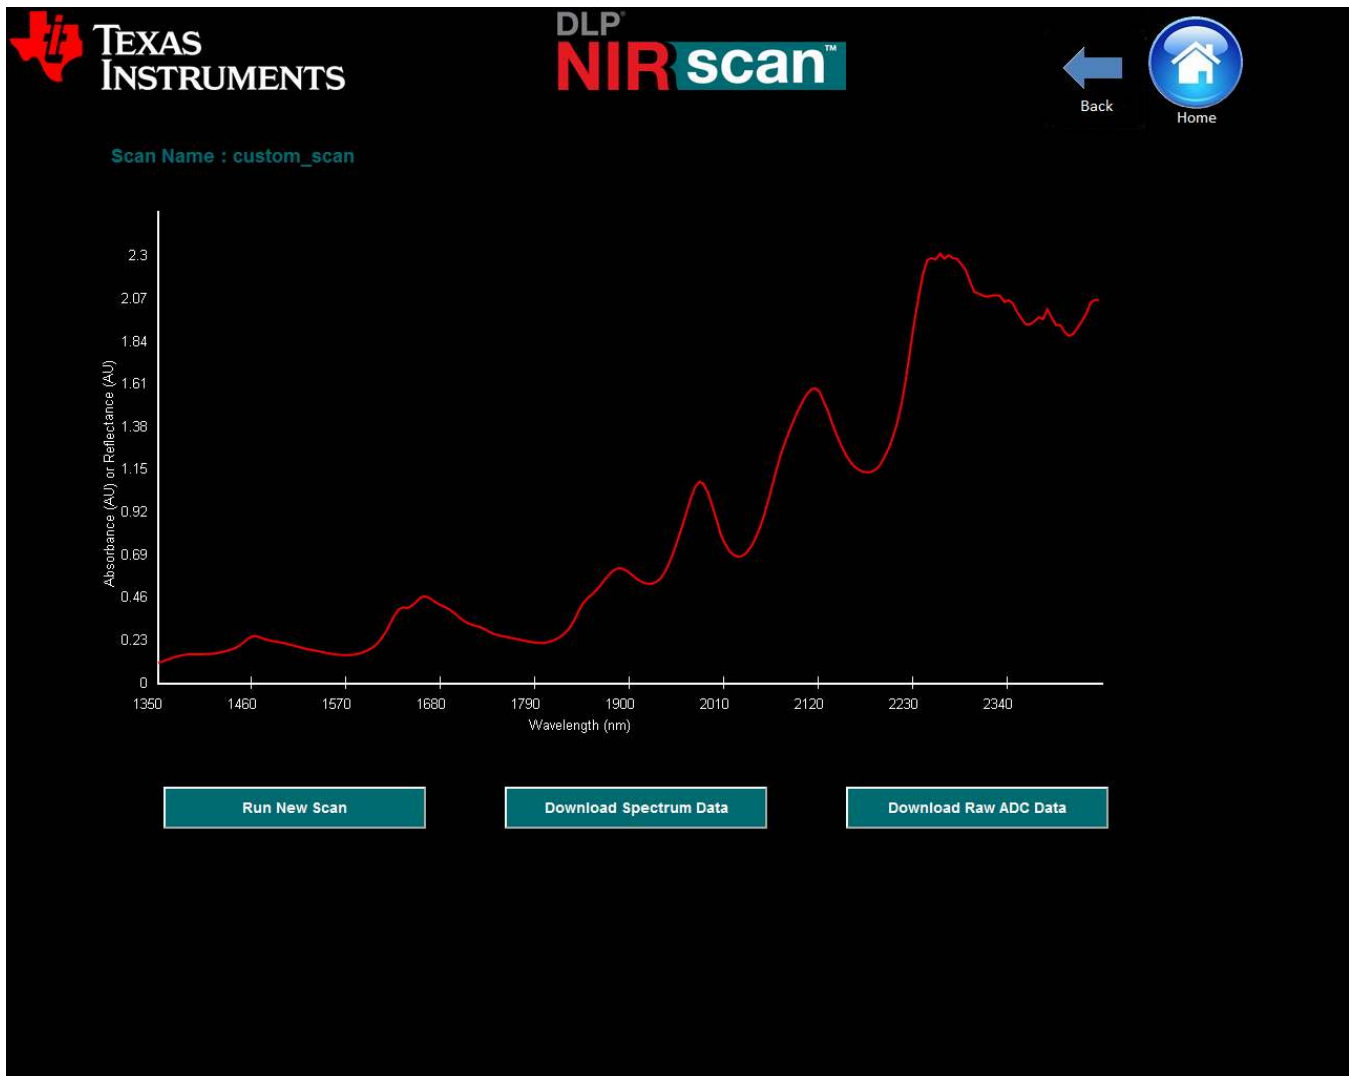

Figure 3-5. Example Custom Scan
6. Click **Perform Scan**. The DLP NIRscan EVM scans the sample, calculates the sample material absorbance, and displays the absorbance in graphical format on the next screen. Figure 3-5 shows an example of this screen.
6. Click **Perform Scan**. The DLP NIRscan EVM scans the sample, calculates the sample material absorbance, and displays the absorbance in graphical format on the next screen. Figure 3-5 shows an example of this output.